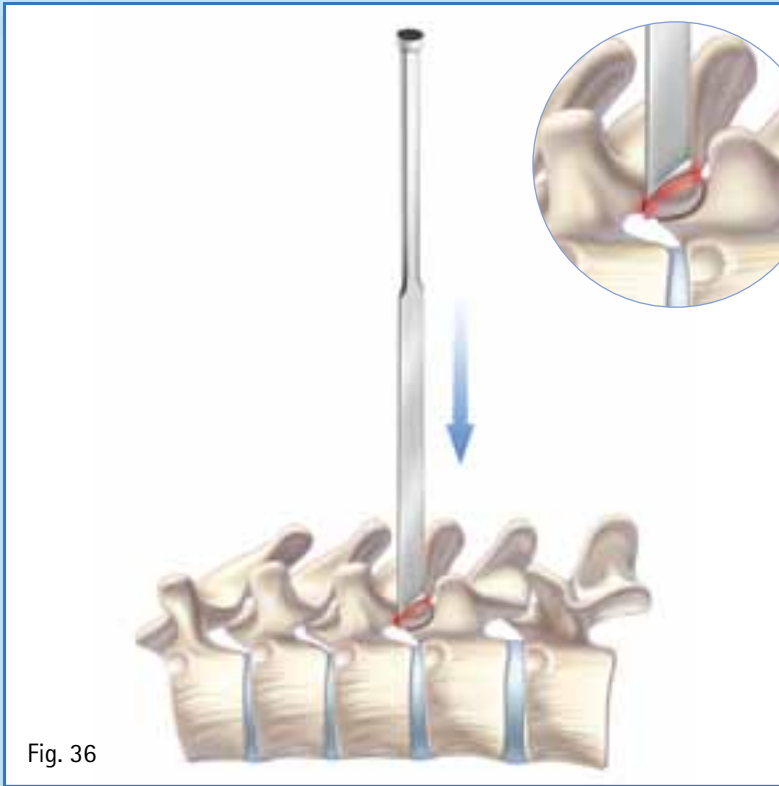

Fig. 36
- Resect the tip of the inferior articular process using an osteotome. (Fig. 36)